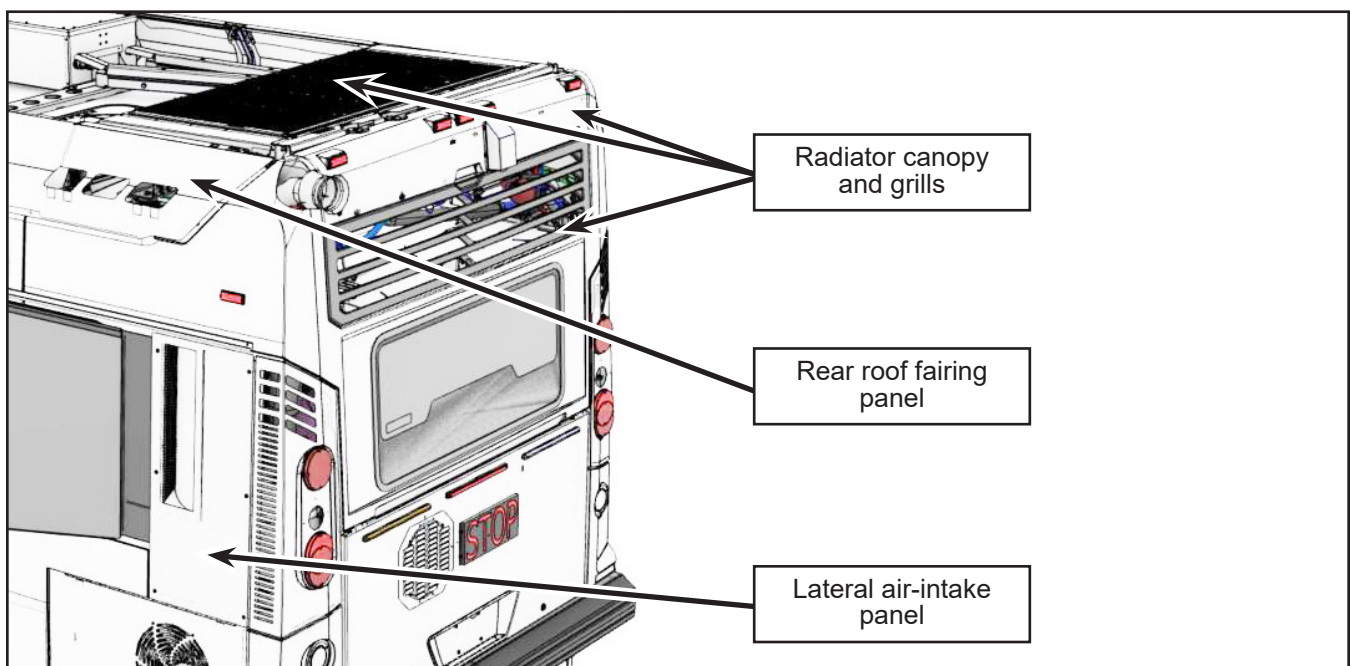

Figure 5 - Components to Remove Outside the vehicle to Access N81042-01
2.2.2. Outside the vehicle, to access and be able to remove the pipe N81042-01, remove the following components (Figure 5):